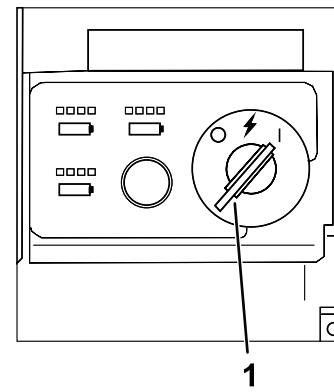

Figure 17
4. Turn the key to the ON position to turn on the machine (Figure 17).